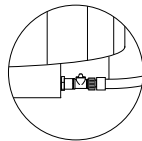

Figure 11.5c
4. Attach one end of your garden hose to the drain valve, Figure 11.5c. Place the other end in an area safe for water runoff.